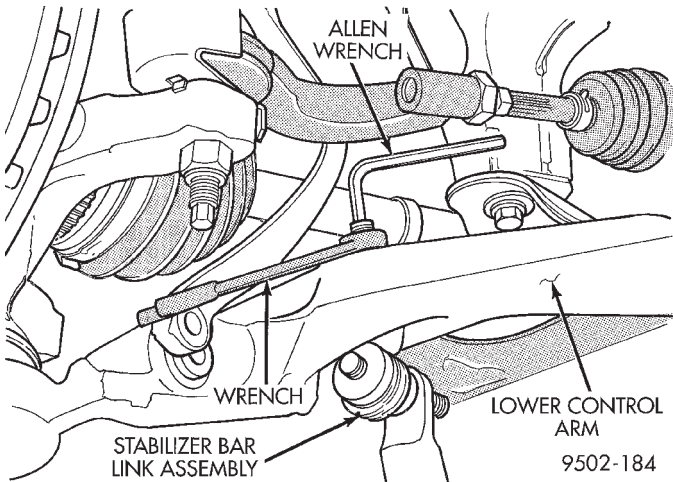

Fig. 33 Removing/ Installing Nut From Stud Of Stabilizer Link
(8) Remove nut attaching the stabilizer bar link to the lower control arm (Fig. 33). When removing nut, hold stud of stabilizer bar link from turning by inserting an allen wrench in the end of the stud (Fig. 33).
(8) Install and securely tighten the stabilizer bar link to lower control arm attaching nut to a torque of 102 N·m (75 ft. lbs.). When tightening and torquing attaching nut, hold stud of attaching link from turning with an allen wrench (Fig. 33).